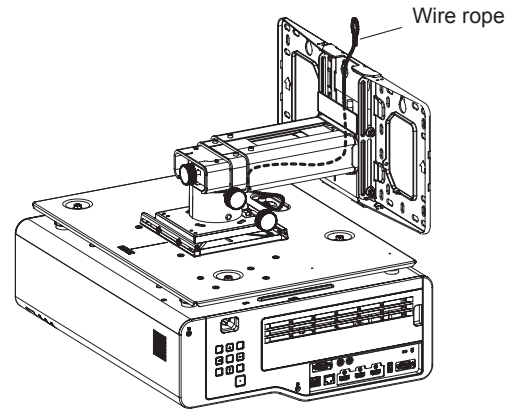

Fig.5
- 5) **Route the wire rope through the arm and pull it out to the top of the wall mount bracket. (Fig.5)**